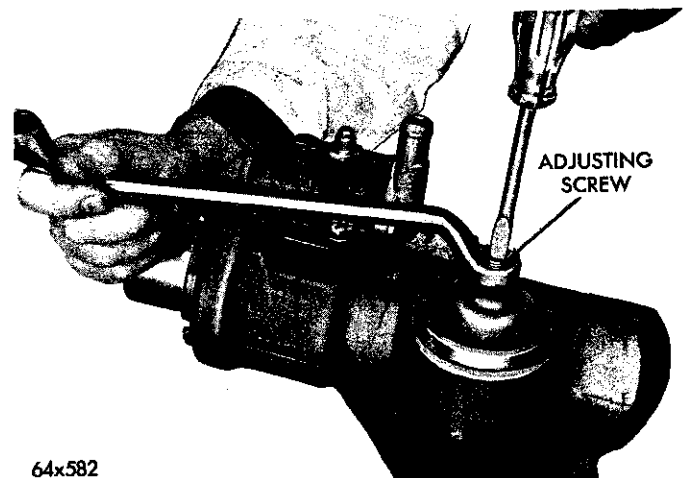

Fig. 29—Steering Gear Shaft Adjustment
(1) Remove the oil reservoir cover and fill the reservoir to the bottom of the filler neck opening.
(2) Connect the test hoses, Tool C-3211 and Tool C-3318, with the proper adapters to the hydraulic pump on the vehicle with pressure gauge Tool C-3309B installed between the pump and the steering gear to register the pressures.
(3) Start the engine and operate at idle to bring the steering gear to normal operating temperature.
(4) Expel all the air from the unit by turning the worm shaft several times to the right and then to the left.
(5) Refill the reservoir before proceeding with the following test and adjustments on the bench:
c. With the gear shaft on center, tighten the gear shaft adjusting screw until the backlash just disappears. Tighten $1\frac{1}{4}$ turns from this position and while holding the adjusting screw in this position, tighten the lock nut (Fig. 29).